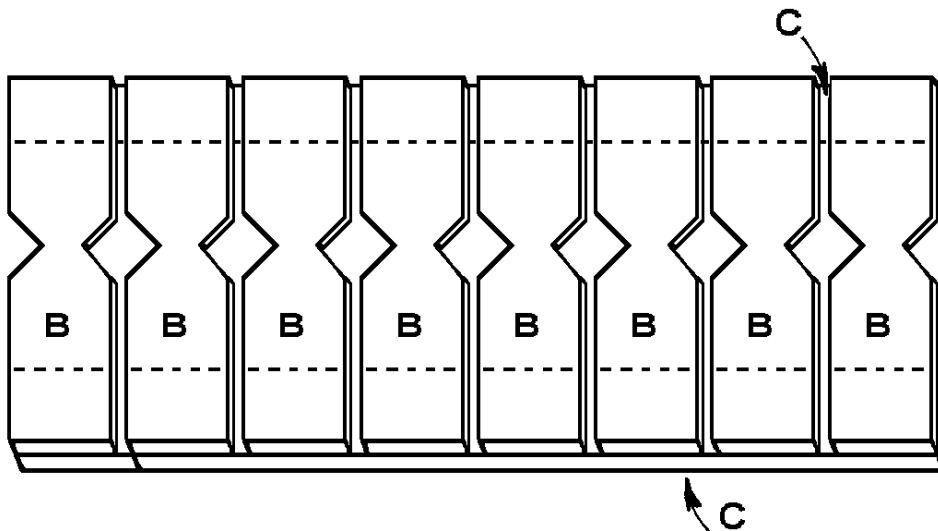

Figure 3
- Sand each of the vertical back pieces (B) now because it will be difficult to sand them after the back is assembled.
- Cut four horizontal back pieces (C) from 1 x 4 pine, each 45 inches long.
- Set two of the horizontal back pieces (C) on a level work surface placing them parallel to each other and with the inside edges 12 inches apart.
- Lay the eight vertical back pieces (B) evenly spaced on top of the horizontal back pieces (C). As shown in *Figure 3*, the ends of the verticals (B) should be flush with the outer edges of the horizontals (C).